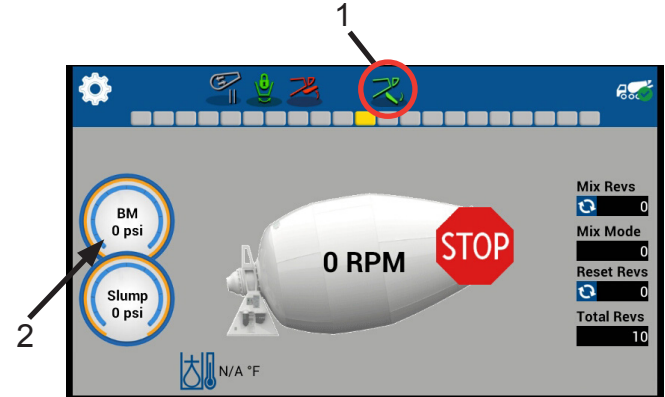

Figure 48
- a. Center and lower chute as required. Make sure the chute “lowered and centered” icon appears on the top row of the monitor display (Figure 48, Item 1) before commanding the Bridgemaster axle up or down.
- b. Use the PRV2 adjusting knob on the Bridgemaster to dial in the proper pressure for the load being transported. The BM PSI gauge on the screen (Figure 48, Item 2) should change according to the pressure dialed in on the PRV2 adjusting knob.